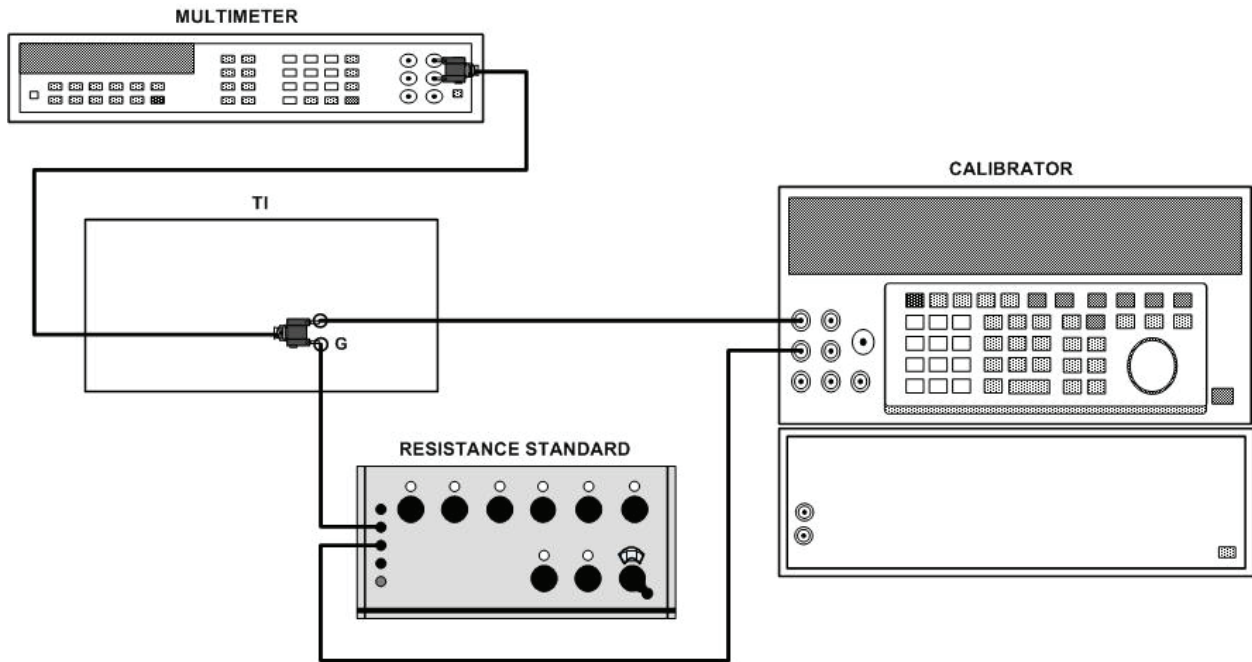

Figure 1. Impedance accuracy - equipment setup.
- d. Connect equipment as shown in figure 1.